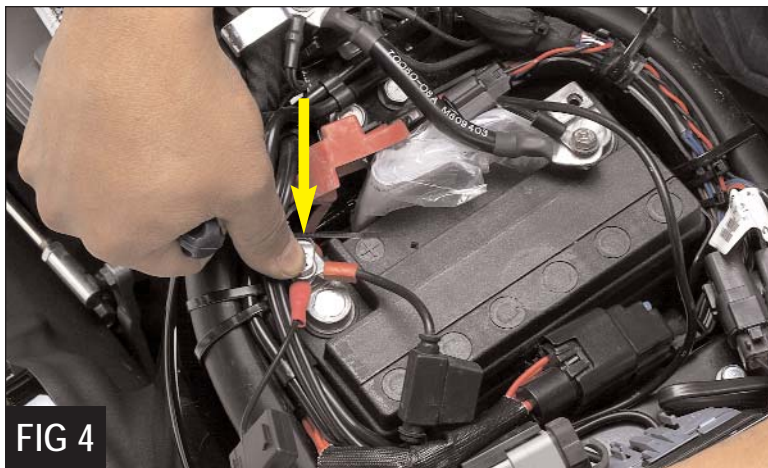

FIG 4
3. Using a 10mm socket wrench, disconnect the battery positive terminal and attach the positive wire to the battery (Figure 4).